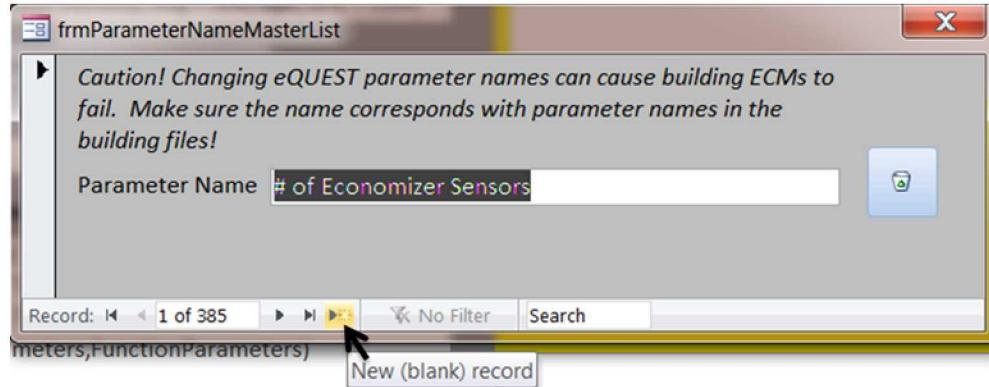

Figure 39. Parameter master list form
1. Add all parameter names for the ECM for both user input parameters and for eQUEST parameters by pressing “Add/Edit Parameter Names to Master List.” This opens up another form allowing the addition of parameters as seen in Figure 39. The new parameters will be selected in steps 2 and 5. Be extra careful to match names that are in any building input files because renaming can be difficult.